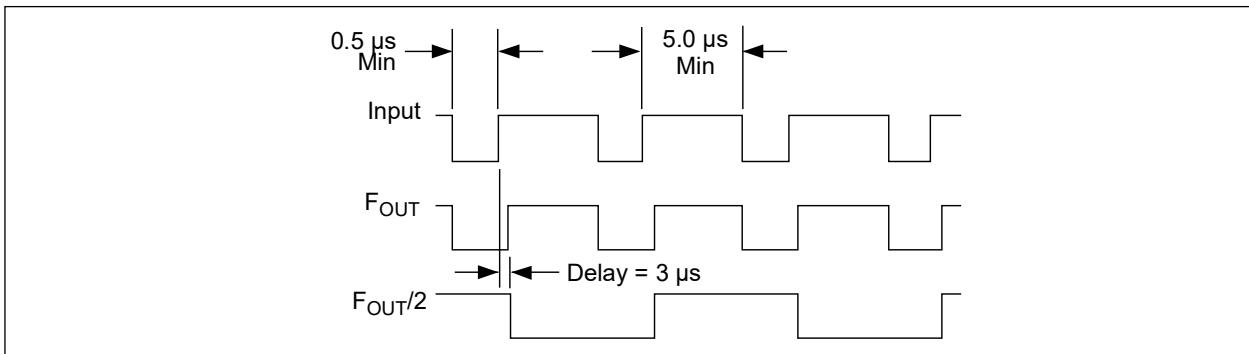

FIGURE 6-3: F/V Digital Outputs.
If these outputs are not used, Pins 8, 9 and 10 should be connected to ground (see Figure 6-3 and Figure 6-4).
2. Corrected Figure 2-1, Figure 3-1, Figure 4-1, Figure 6-3, Figure 6-4, Figure 6-5.